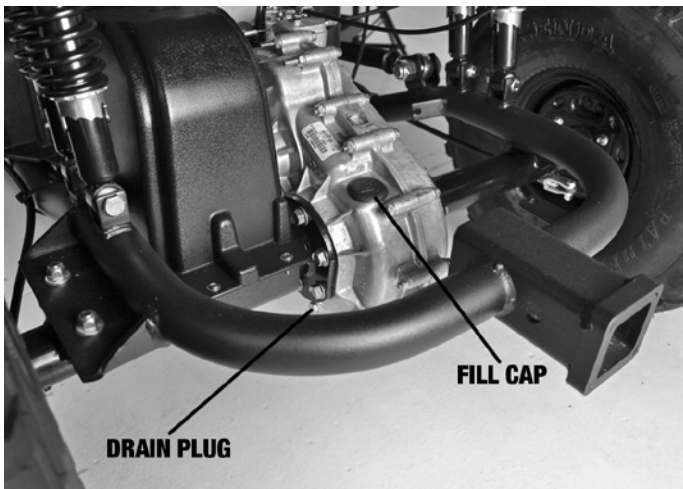

figure 6.10
- * Fill cap location: At rear left hand side (see figure 6.10)